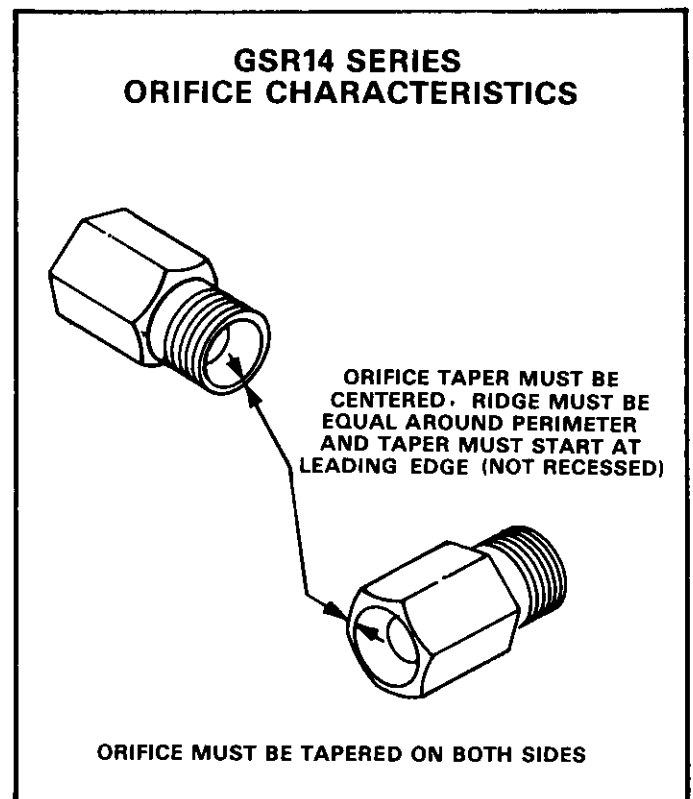

FIGURE 37
- Refer to Figure 37 for physical characteristics of the orifice. The orifice opening must not be chamfered. The orifice taper **MUST** be centered and not recessed. **THE TAPER MUST BE ON BOTH SIDES OF THE ORIFICE.** If any defects are found (including nicks and scars) the orifice must be replaced.